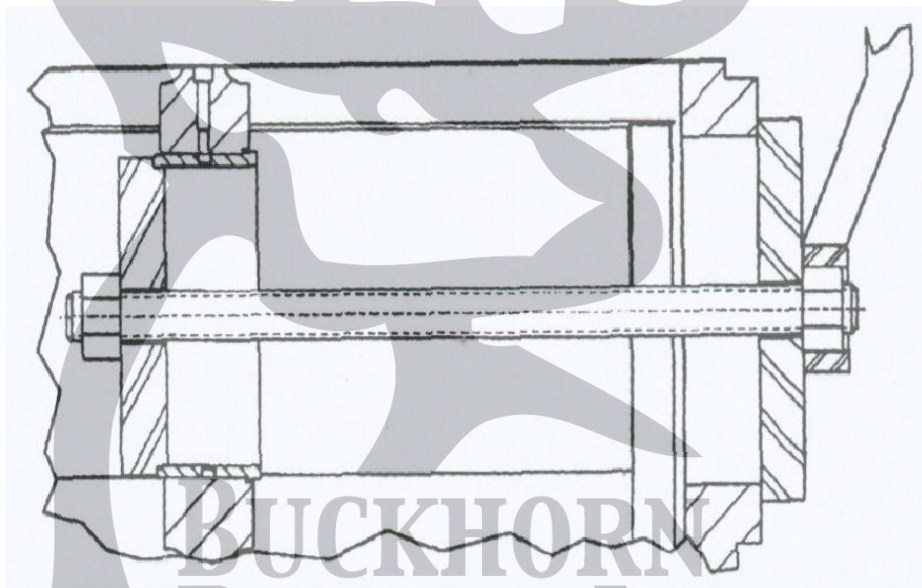

Figure 22: Center Bearing Puller
8. Inspect the center support crankshaft bearings (14) for scoring or galling of the Babbitt surface or for imbedded debris. Minor concentric scratches caused by small debris passing through the bearing are not cause for replacement.
9. If bearings are damaged or clearance measured in step 4 exceeds 0.010 inches, the center support bearings will need to be replaced. Remove the socket head lock screws (15) that retain the bearings and then pull the bearings. Refer to Picture 5 for locking screw location.
10. The use of an all-thread rod and a plate machined to fit the bearing will allow for proper removal and allow the new bearings to be installed. Refer to Figure 22 for an illustration of the puller arrangement. **NOTE:** Align the lock screw relief in the bearing OD with the threaded hole in the power frame to allow for installation of the lock screw. It is important that the lock screw engage the relief hole in the OD of the bearing to prevent rotation. If the screw does not engage the hole in the bearing, the screw will push against the outside of the bearing and cause deformation.